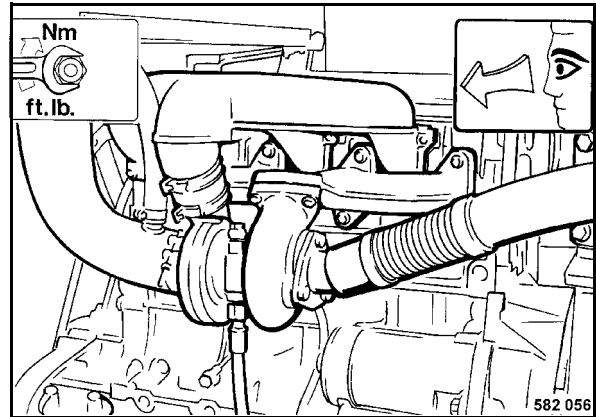

Fig. 92
- Check the fastening of intake and exhaust tubes (Fig. 92) on the cylinder heads for tight fit.